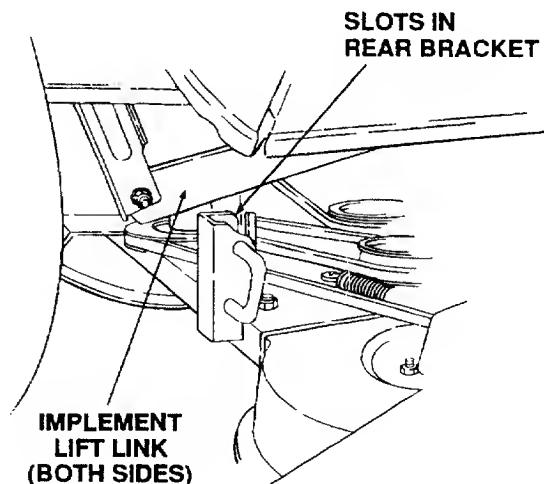

Figure 46
4. Make sure both rear bracket slots of the deck align with both implement lift links of the tractor. (Refer to Figure 46.)